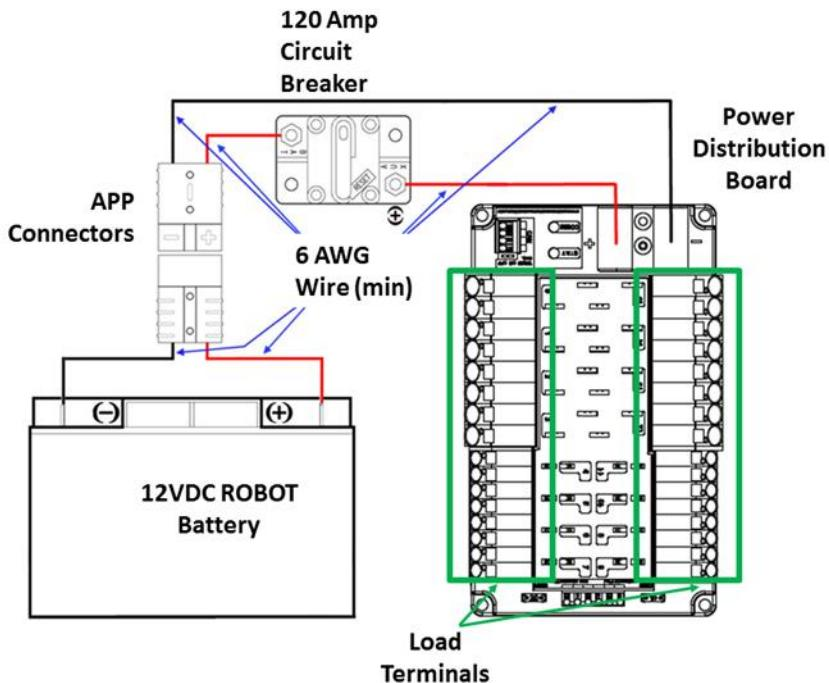

Figure 9-9 Electrical connection diagram
**R40.** The one (1) ROBOT battery, a single pair of Anderson Power Products (or APP) 2-pole SB type connectors, the one (1) main 120-amp (120A) surface mount circuit breaker (Cooper Bussman P/N: CB185-120, CB185F-120, CB285-120), and the one (1) CTR Electronics Power Distribution Panel (PDP, P/N: am-2856, 217-4244, 14-806880) shall be connected with 6 AWG (7 SWG or 16 mm2) copper wire or larger, with no additional devices or modifications, as shown in Figure 9-9.
- R41.** All circuits, with the exceptions of those listed in R46 and R48, must connect to, and have power sourced solely by, a single protected 12VDC WAGO connector pair (i.e. the Load Terminals, as shown in Figure 9-9) of the one (1) CTR Electronics Power Distribution Panel, not the M6 cap screws.